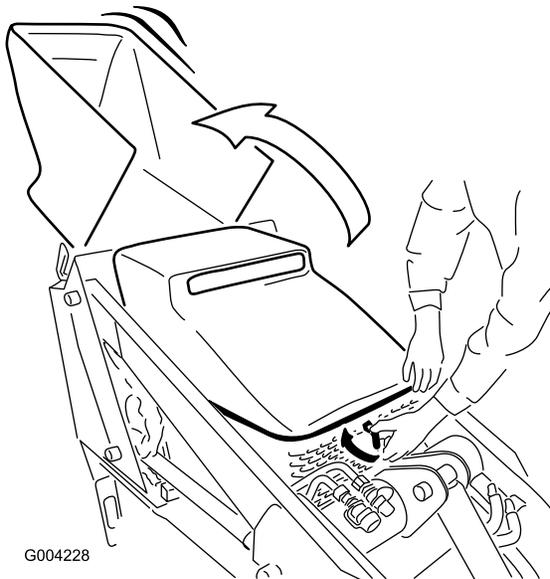

Figure 21
1. Turn the hood latch clockwise (Figure 21).
2. Swing the hood up (Figure 21).